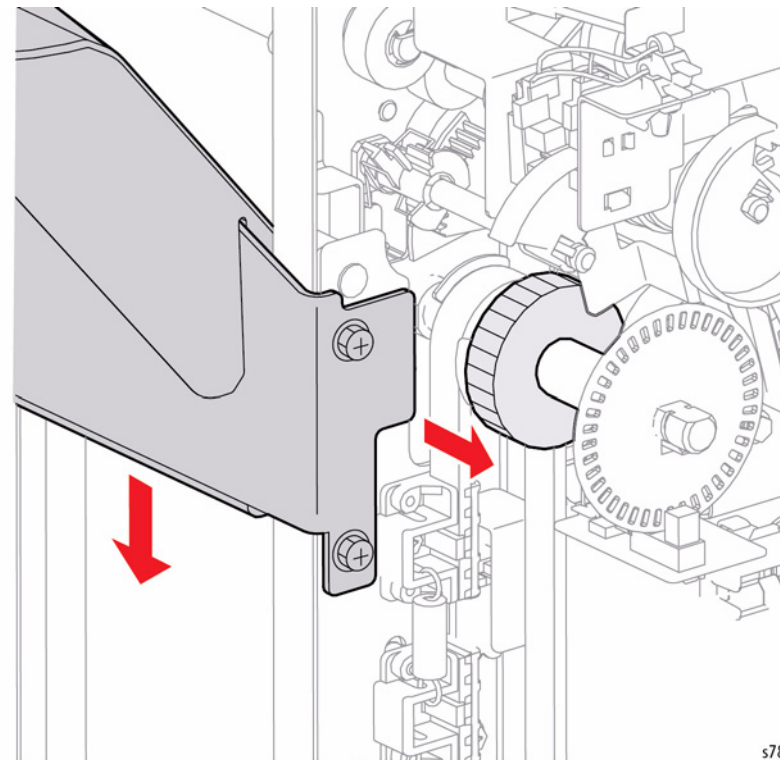

Figure 1 Moving the Gear and Lowering the Carriage Tray
5. Move the gear in the direction of the arrow as shown in Figure 1.